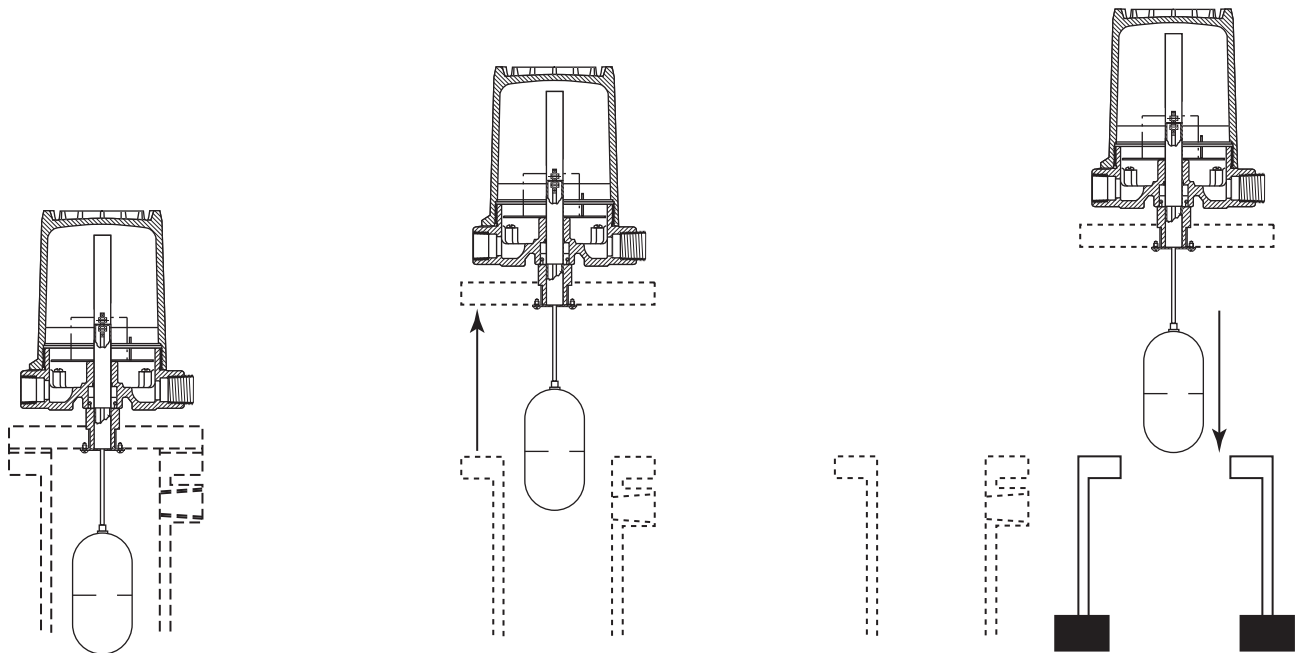

Figure 19
5. Prepare an area where the head assembly can be placed such that it rests on the flange in its normal orientation (two 2×4 boards placed across an open drum work well). Refer to **Figure 19**.
10. Replace the assembly keeping it as vertical as possible. Carefully lower the assembly into the chamber making sure that the stem does not become bent during installation. Refer to **Figure 19** on page 15.